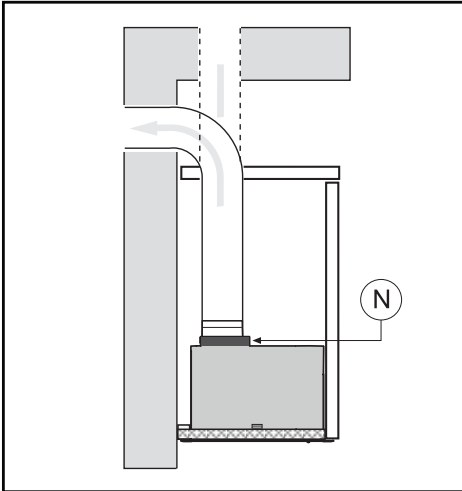
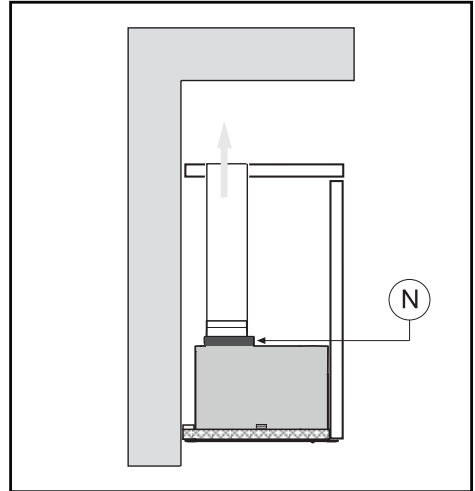
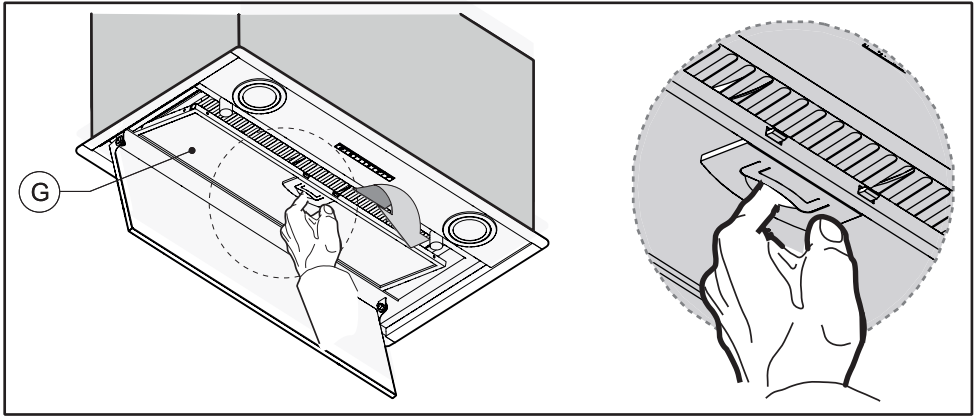
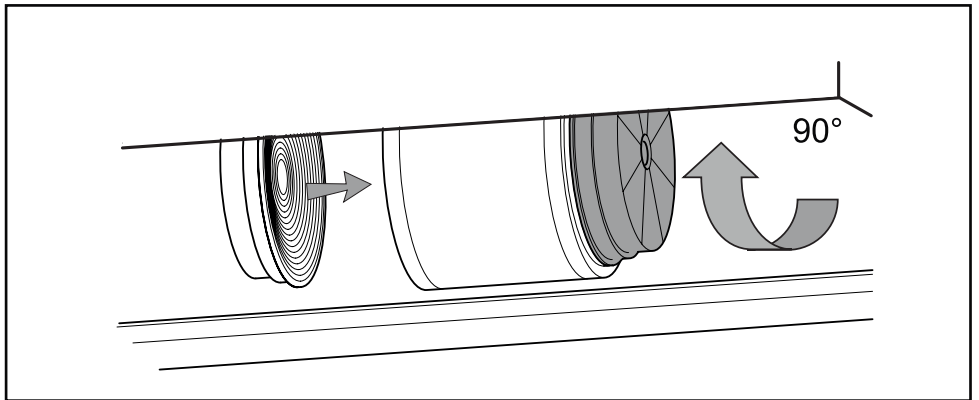

Fig.6
Fig.7
Fig.8
Fig.9
Carefully read the following important information regarding installation safety and maintenance. Keep this information booklet accessible for further consultations. The appliance has been designed for use in the ducting version (air exhaust to the outside - Fig. 6), filtering version (air circulation on the inside - Fig. 7) or with external motor.
- The minimum distance between the support surfaces of the cooking pots on the cooker top and the lowest part of the cooker hood must be at least **65 cm**. If a connection tube composed of two parts is used, the upper part must be placed outside the lower part. Do not connect the cooker hood exhaust to the same conductor used to circulate hot air or for evacuating fumes from other appliances generated by other than an electrical source. Before proceeding with the assembly operations, remove the anti-grease filter(s) (Fig. 8) so that the unit is easier to handle.
It is therefore necessary to purchase a non-flammable air exhaust tube (not supplied) which complies with all current legislation and connect it to flange **N** (Fig. 6).
The filters should be fitted to the extraction assembly inside the hood, by centring them and rotating them 90 degrees, until they click into place (Fig. 9). Remove panels **G** when performing this procedure (Fig. 8). The air is released back into the room through an air exhaust pipe which passes through the cabinet and is connected to air exhaust hole **N** (Fig. 7).